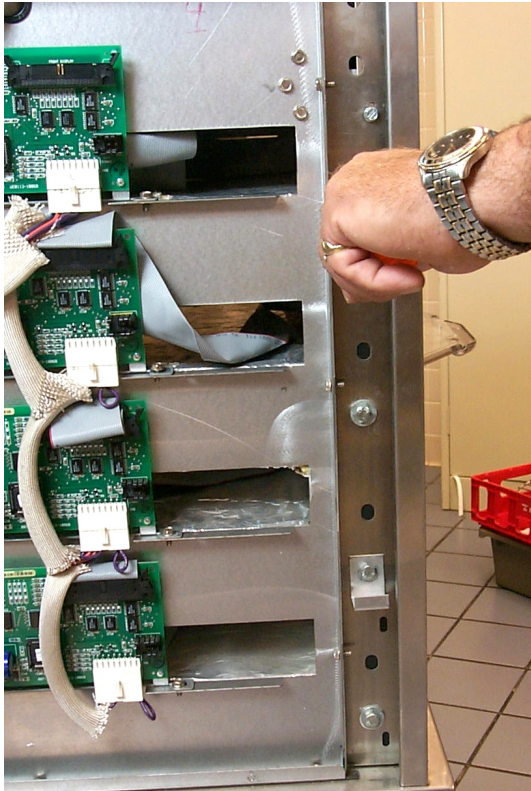

Fig: 1 Remove allen screw and bolts securing bezel in UHC cabinet.
- Remove sides of cabinet. **Fig: 1**